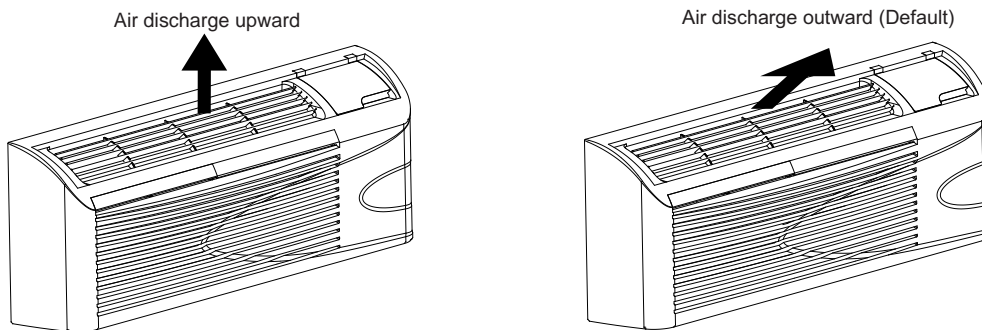

Fig. 18 – Adjusting Louvers
2. Remove louver screws that hold louver insert in place (from back side of front panel). See Fig. 18.